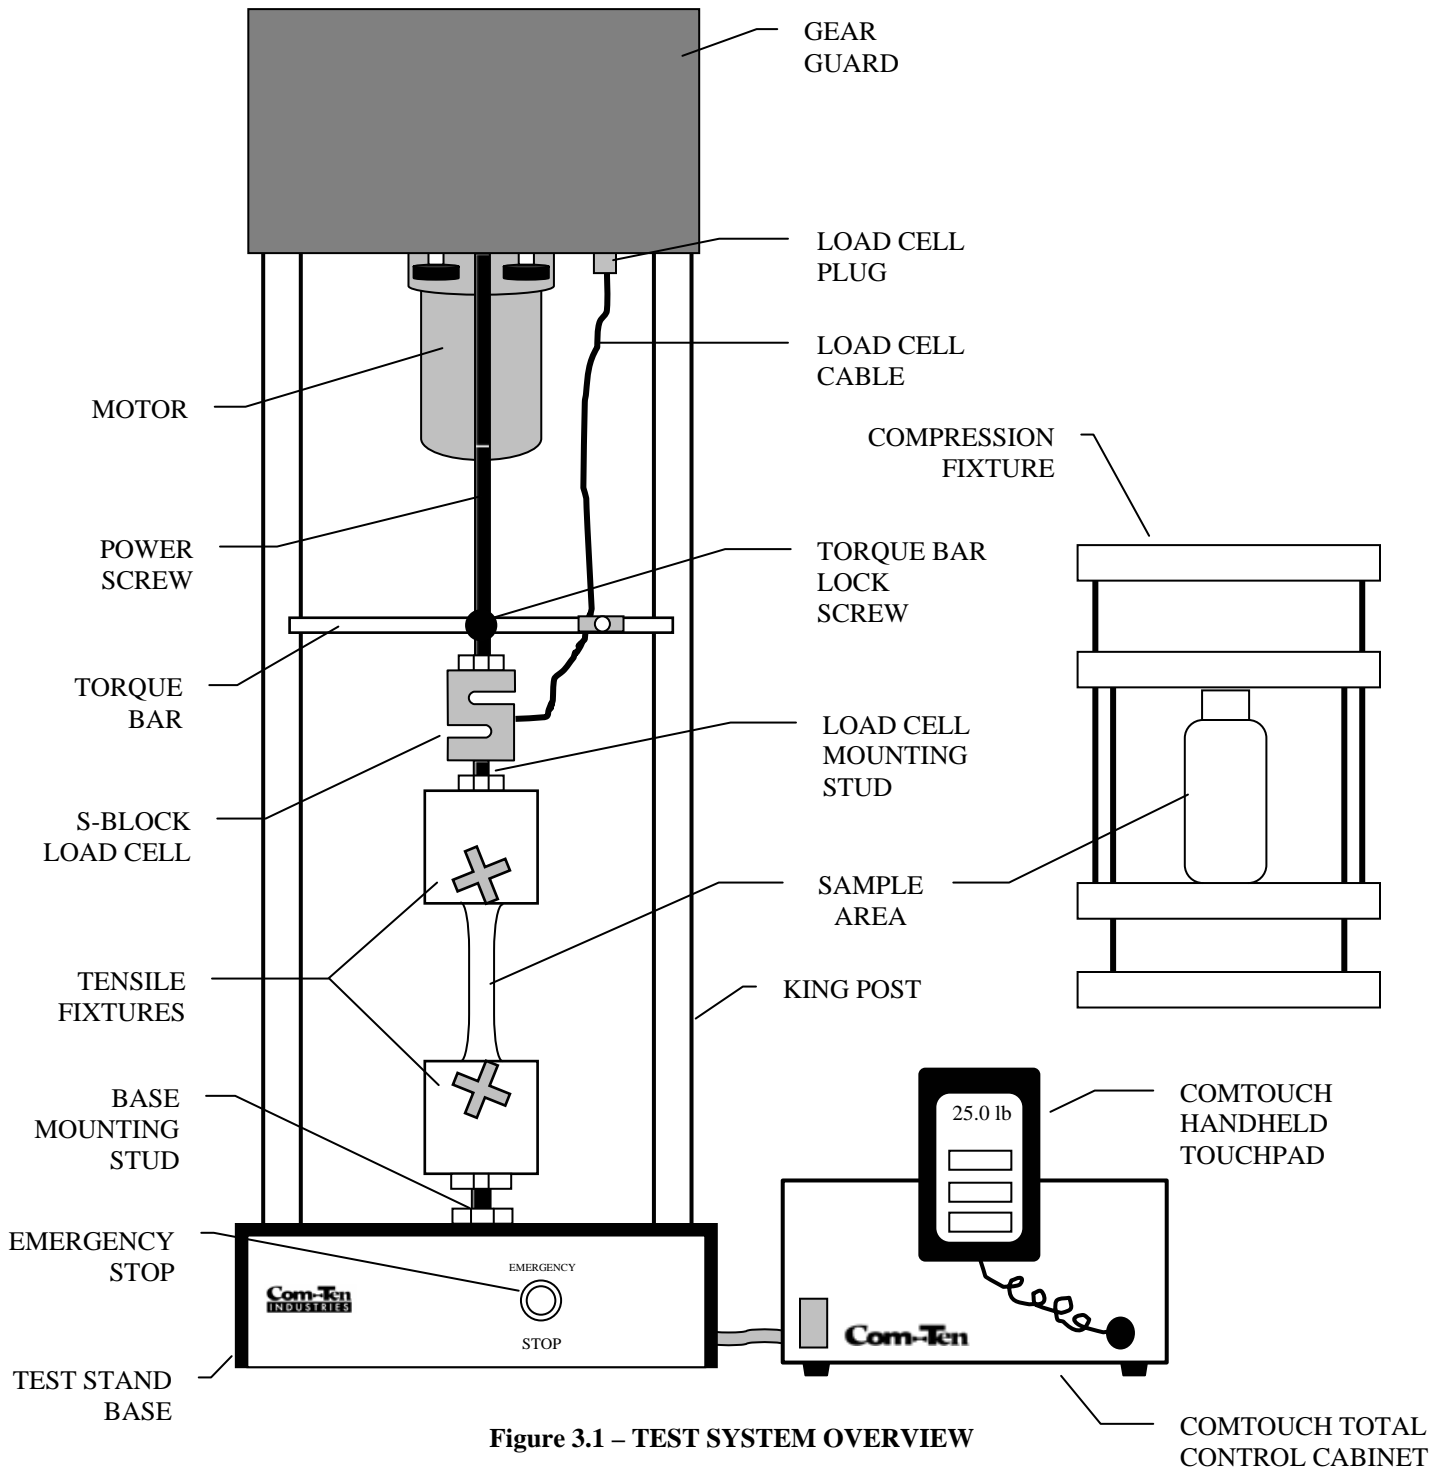

Figure 3.1 – TEST SYSTEM OVERVIEW
1. Place the ComTouch on the work bench or table next to the Test Stand. See Figure 3.1 – TEST SYSTEM OVERVIEW on page 16.